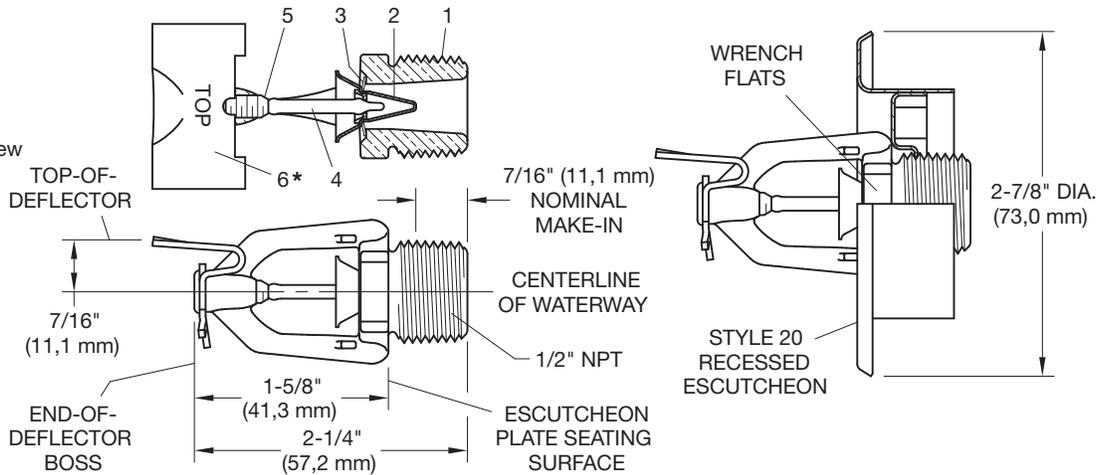

FIGURE 1
Step 3. Tighten the sprinkler into the sprinkler fitting using only the W-Type 6 Sprinkler Wrench (Figure 3). With reference to Figure 1, apply the W-Type 6 Sprinkler Wrench to the wrench flats.
Step C. Tighten the sprinkler into the sprinkler fitting using only the W-Type 7 Recessed Sprinkler Wrench (Figure 4). With reference to Figure 1, apply the W-Type 7 Recessed Sprinkler Wrench to the sprinkler wrench flats.